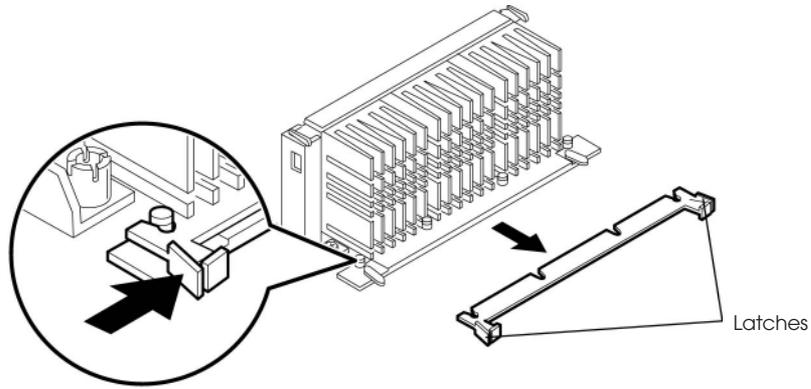

Figure 14. Removing the heatsink support bar from the base
- 6** Remove the top bar of the heatsink support from the base as shown in Figure 14. Press in on the latches to release the top bar.